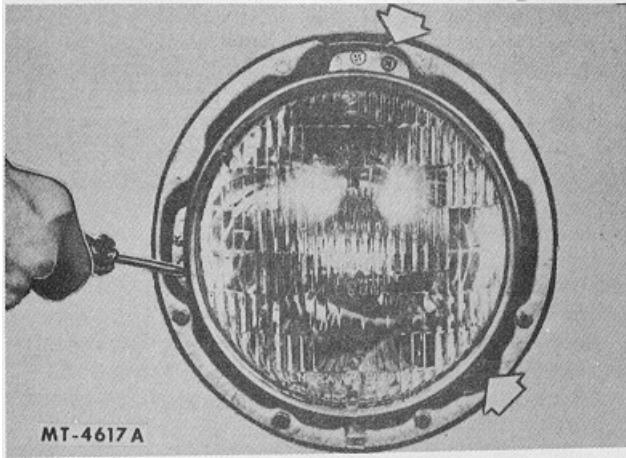

Fig. 5 3
2. Remove the retaining ring attaching screws Fig. 5. NOTE The screw mounting hole: may have enlarged openings which permit the retaining ring to pass over the screw heads after loosening the screws 4 or 5 turns. Complete removal of screws is not required.